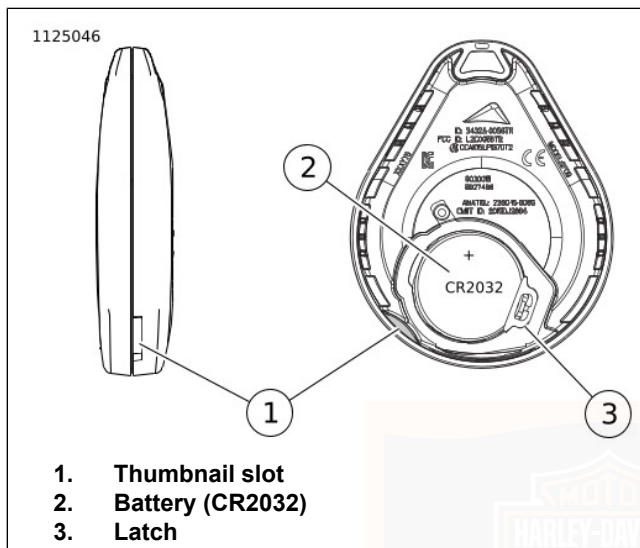

Figure 17. Replace Fob Battery
- See Figure 17. The serial number of the fob is also found on the inside of the fob.
1. See Figure 17. To open the fob, turn a thin blade in the slot (1).
2. Remove the battery (2) and discard in accordance with local regulations.